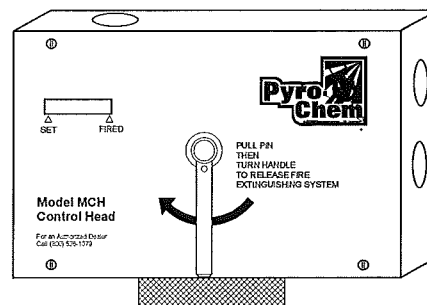

Figure 2-4. Mechanical Control Head.
The Model MCH mechanical control head is a fully mechanical control head which can be connected to the PCL-240/350/550 cylinder valve. This control head will support a fusible link detection system, a remote mechanical pull station (Model RPS-M), and a mechanical or electric gas shut-off valve. A miniature electric switch (Model MS-SPDT or MS-DPDT) can be ordered separately and field installed. It is equipped with a local manual control handle that allows for mechanical system actuation. Operation of the local manual control requires removing the pull pin and rotating the handle clockwise. The Model MCH control head can actuate a maximum of three (3) cylinders. See **Figure 2-4**.